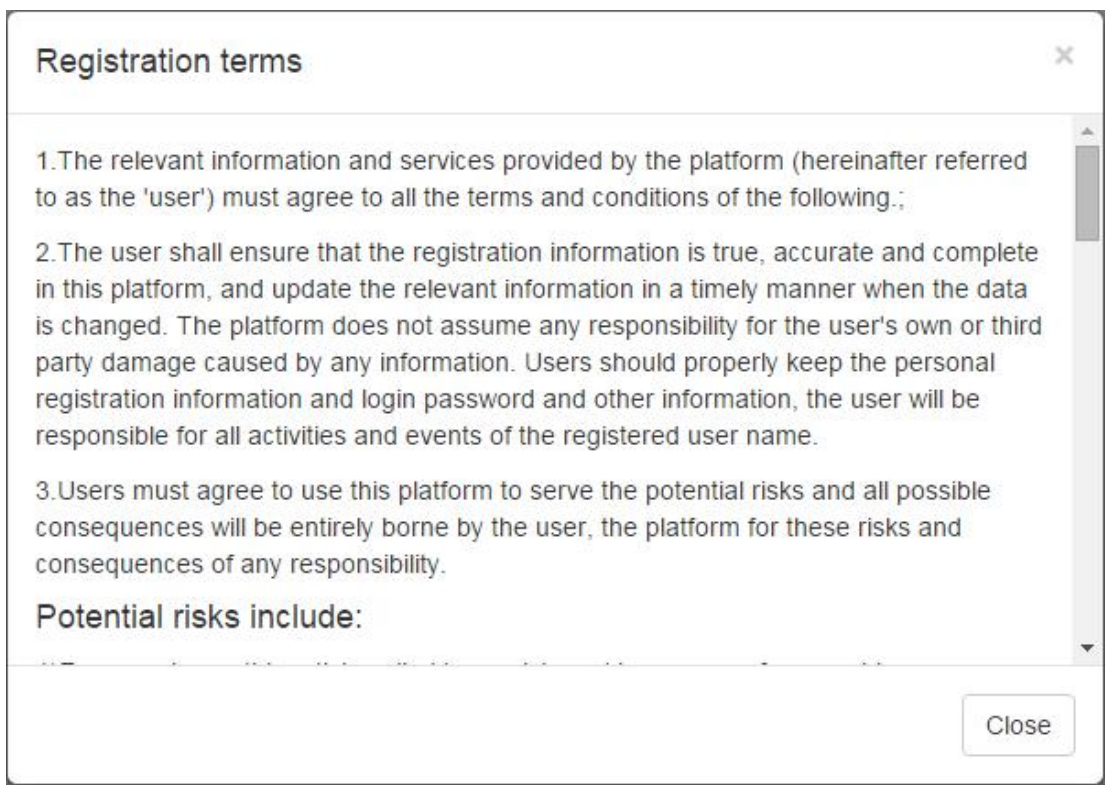

Fig. 3-9 Registration terms window
(3) Fill in the registration information, and check the "By clicking Sign Up, you agree to our Terms", shown in Fig. 3-8. The registration terms window can be opened by clicking the hyperlink "Terms", shown in Fig. 3-9. This terms windows can be closed by click the "Close" button.